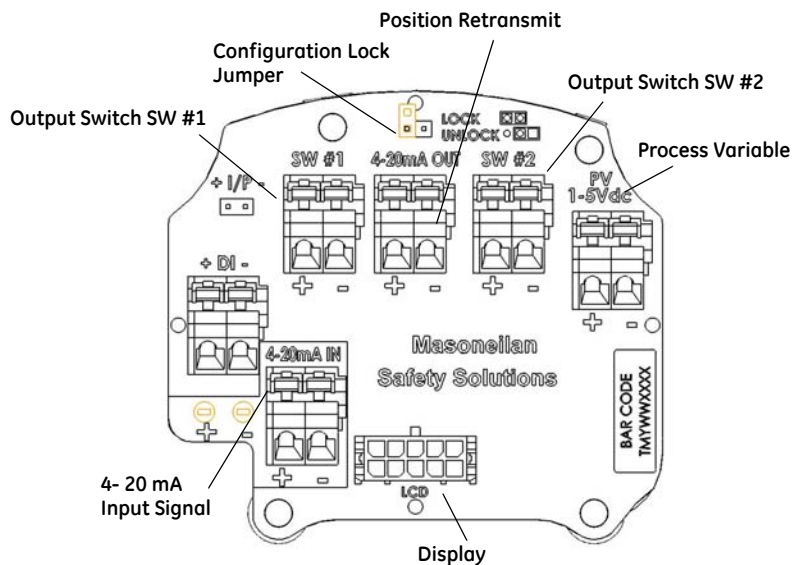
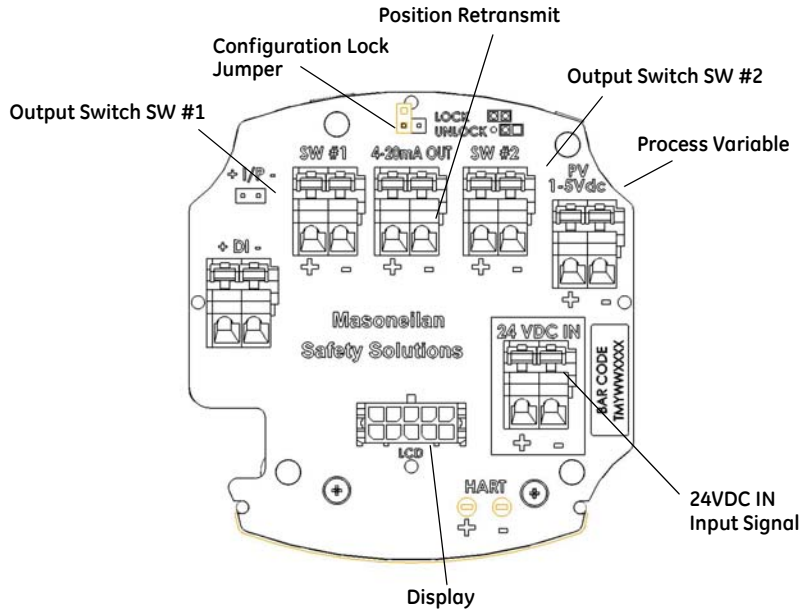
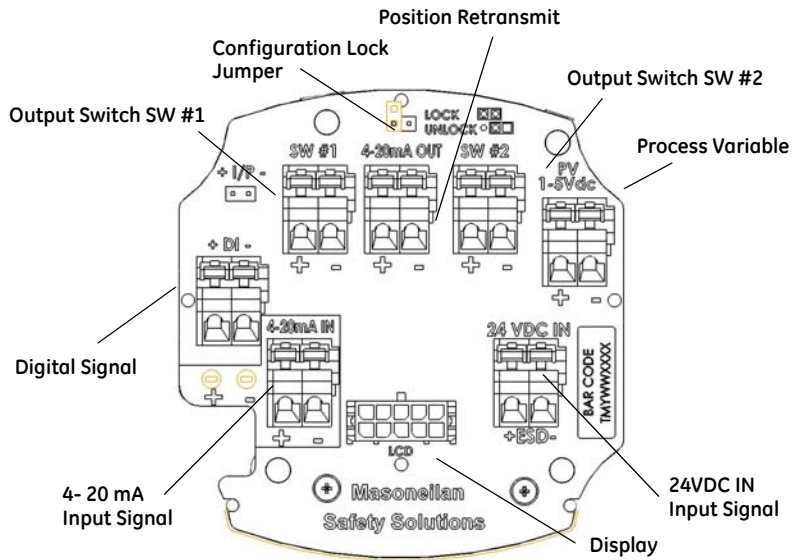

Figure 54 Connections to ASD Electronics Module (via Terminal Board)
Figure 55 Connections to DSD Electronics Module (via Terminal Board)
Figure 56 Connections to A/DSD Electronics Module (via Terminal Board)
2. Connect the +/- terminals from the 4-20 mA Out to the position retransmit input signal: + to + and - to -. See Figure 54 on page 83, Figure 55 on page 84 or Figure 56 on page 84, depending on card type.
1. Loosen the four (4) cover screws and remove the cover of the SVI II ESD.
2. Connect the +/- terminals of the current source to the 4 - 20 mA IN connector (on the terminal board). The current source + must connect to the terminal board connector +, and the same for -. See Figure 54 on page 83.
2. Connect the +/- terminals of the 24 VDC power source to the 24 VDC ESD IN connector (on the terminal board). The voltage + must connect to the terminal board connector +, and the same for -. See Figure 55 on page 84.
5. Connect the +/- terminals of the 24 VDC power source to the 24 VDC ESD IN connector (on the terminal board). The voltage source + must connect to the terminal board connector +, and the same for -. Figure 56 on page 84.
2. Locate the correct terminal block on the terminal board (see Figure 54 on page 83).